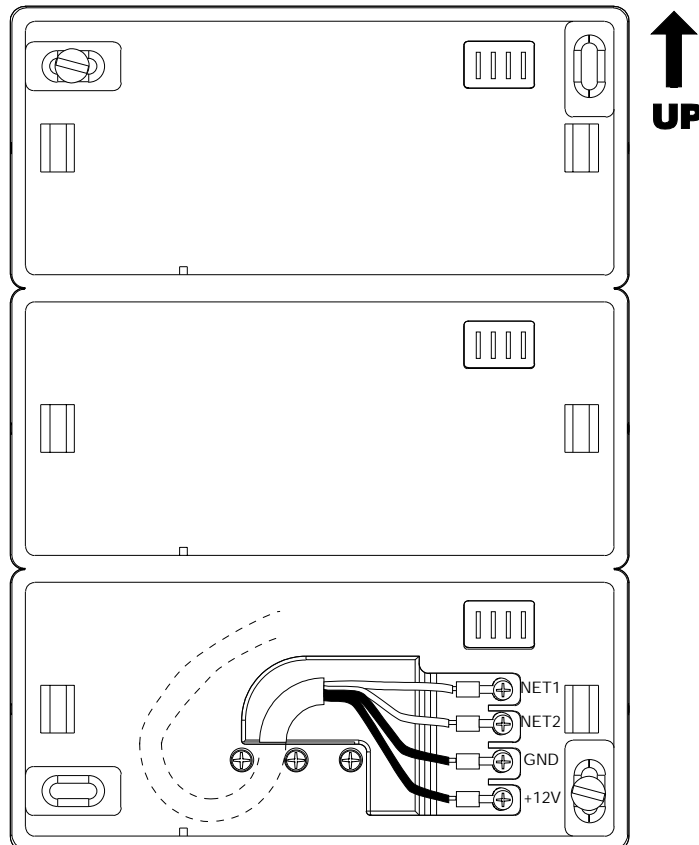

Figure 5: Wall position – horizontal position (triple module)
5. Fasten the cable crimp to the contacts in the direction shown in Figure 5.